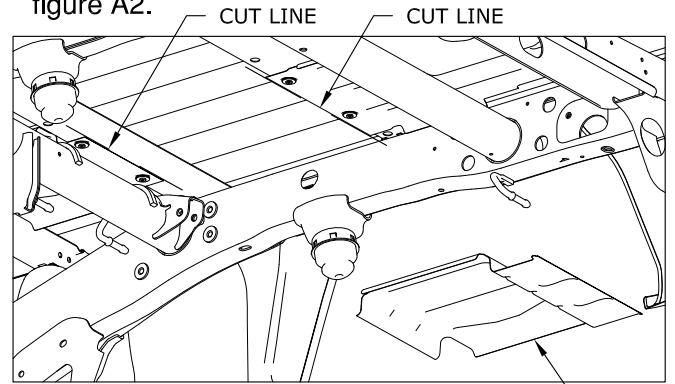

FIGURE A2: View Under Bed Looking at Heat Shield Removal Area
5. Modify heat shield. Cut out the section of the heat shield directly over the exhaust between the two bed cross members that are above the rear axle, see figure A2.